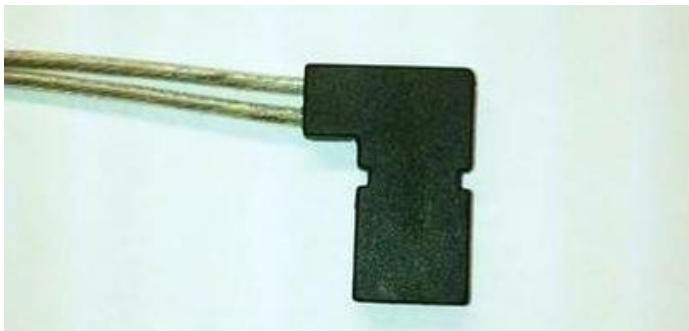

Figure 31 – Microscope Solutions lamp-house connector (photo courtesy Microscope Solutions)
expensive) remanufactured replacement is available (see Figure 31) from Microscope Solutions (item 12 of Table 2).